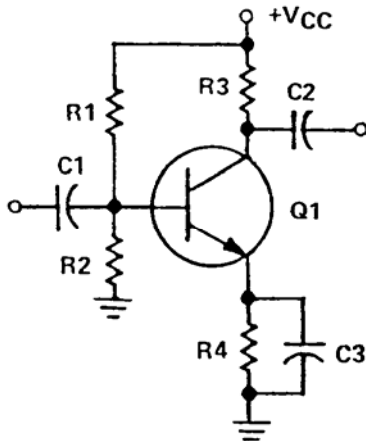

Figure D-2. CE Amplifier
- a. The CE amplifier, shown in Figure D-2, is probably the most widely used type of amplifier in existence, because it is the only bipolar configuration capable of amplifying both voltage and current.
b. R1 Increase and Decrease. Refer to Figure D-2 for the following explanations. If R1 were to increase in value, there would be less base bias. This will change the Q point on the load line, thus changing the amplifier's class of operation. If R1 were to decrease in value, base bias voltage would increase, changing the Q point and class of operation once again. The only difference would be to where the Q point moves. With a decrease in R1, the Q point would move toward saturation, while an increase in R1 would cause the Q point to move toward cutoff.
(1) If C1 opens, there will be no input signal applied to the base of Q1; therefore, no output signal will appear at the collector. If C1 shorts, the DC potential of the previous stage will cause severe distortion at the output of Q1.
(2) If C2 opens, although the circuit is still operating, the output signal cannot be coupled to the next stage. If C2 shorts, the DC potential at the collector will be passed on to the next stage, causing distortion.
(3) If C3 opens, the gain of the circuit will decrease. If C3 shorts, the thermal stabilization resistor will be effectively shorted. This short will cause Q1 to move toward saturation and a burnout of Q1 may occur.
(4) Generally speaking, if the components in the CB and CC circuits change, they will have very similar effects on each of their respective circuits.